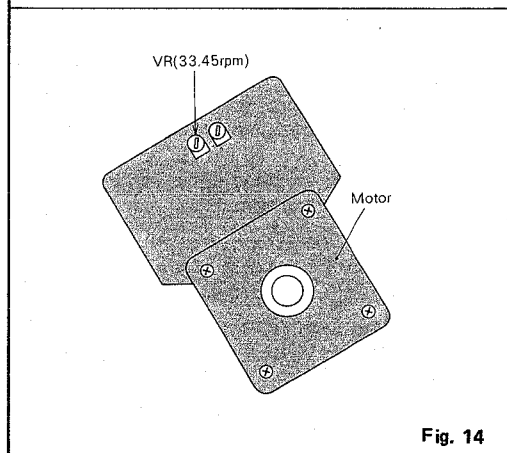

Fig. 14
- Set cueing knob to  $\nabla$  position and move tonearm over the turntable platter. Turntable platter should be rotating. Adjust variable resistors (Fig. 14) so that strobe index on the edge of platter stops and holds completely still. Speed should be checked or adjusted for both modes (33 and 45 rpm).